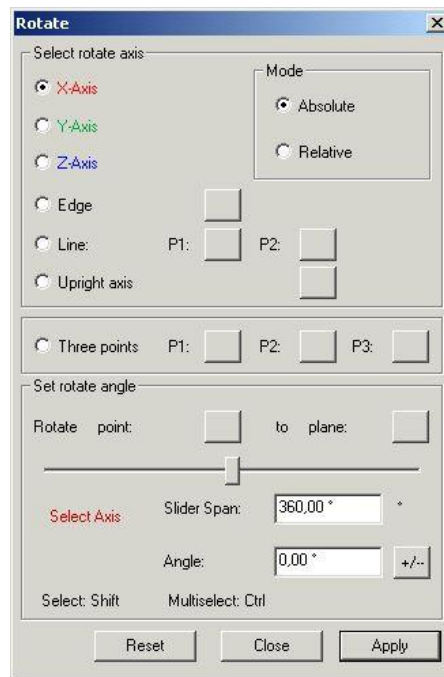
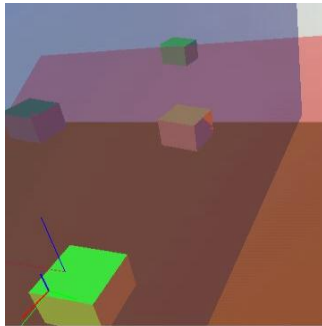

Figure 53: New Dialog for Rotating Objects
Figure 59: Example 1 – Rotate Result
The **rotate angle** function is helpful if you want, for example, to set an object via a defined rotation angle at the source object in relation to a specific plane of the target object – this means that there must be specified values for the rotation axis and the rotation point for the body to be rotated, if you want the body to rest on the surface of another body. All rotation axes required are available for this purpose (*Please refer to the Figure 53*). You can choose between an absolute and a relative mode for each rotation axis (X, Y, and Z).
- 1) Click **Apply** after selecting the rotation angle and the target level (*Please refer to the Figure 53*). Press **Close** button to close the **Rotate** dialog. Thus, the marked levels will no longer be visible. The result will be shown in Figure 59.